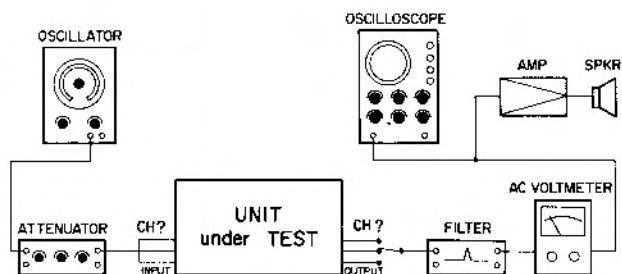

Fig. 2-19. Crosstalk Measurement Set-Up
1. Connect test equipment as shown in Fig. 2-19.